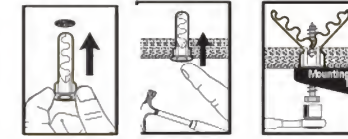

Fig. 8
2.6-Having drilled the 5/32" pilot holes for mounting to the joist, drill 1/4" clearance holes in the other two locations for the togglers. Now, insert the togglers into their appropriate holes. Tap gently into place. (See Fig. 8) Tighten the bolts until they are snug against the mounting plate—but not so tight that the bolt head causes the mounting plate to deform. Do not over-tighten the fasteners.